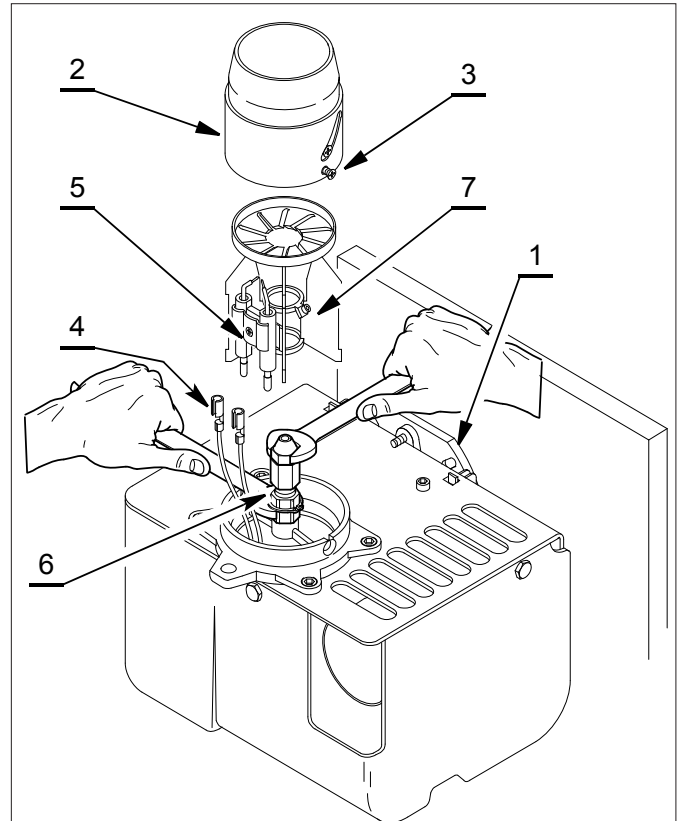

Figure 10-8: Riello RDB 3.2 burner head, diffuser and nozzle holder
4. Remove the burner head. Refer to Figure 10-8. Loosen both fixing screws (3) and remove head from burner (2).
6. If the nozzle needs to be replaced - Remove the diffuser/ electrode assembly. Refer to Figure 10-8.
- Loosen the diffuser clamp screw (7) and remove the diffuser/electrode assembly from the nozzle holder (6).
- Disconnect both ignition leads (4) from the electrodes.
10. Refer to figure 10-8. Slide diffuser (5) along the nozzle holder (6) until hard against the stop and tighten diffuser clamp screw (7).
12. Re-fit the burner head. Refer to Figure 10-8.
- Tighten the two screws (3) to secure the head (2) in position on the burner.